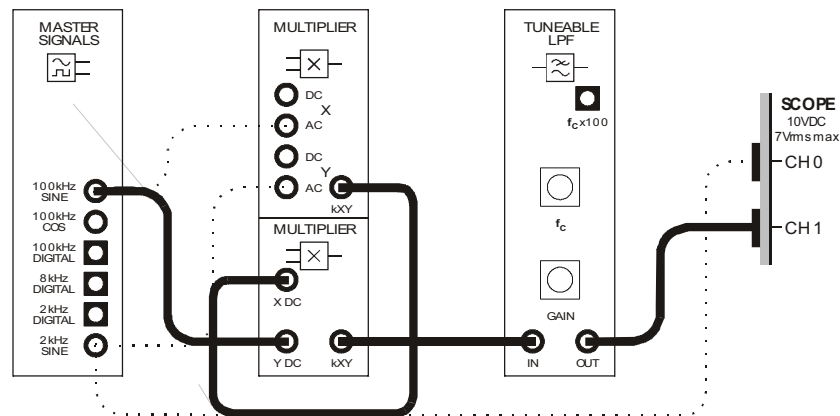

Figure 4
18. Modify the set-up as shown in Figure 4 below.